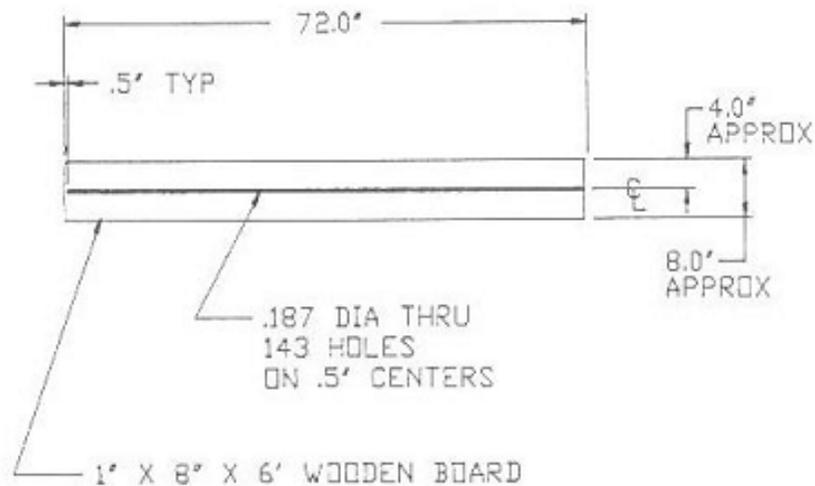

Figure 2, PAPI Unit Glide Slope Angle
6.3. Obtain a wooden board having the approximate dimensions: 1" thick, 8" wide, and 6' long. Drill 3/16" diameter holes (make sure the edges are clean) along the centerline at 1/2" intervals. See figure 2.